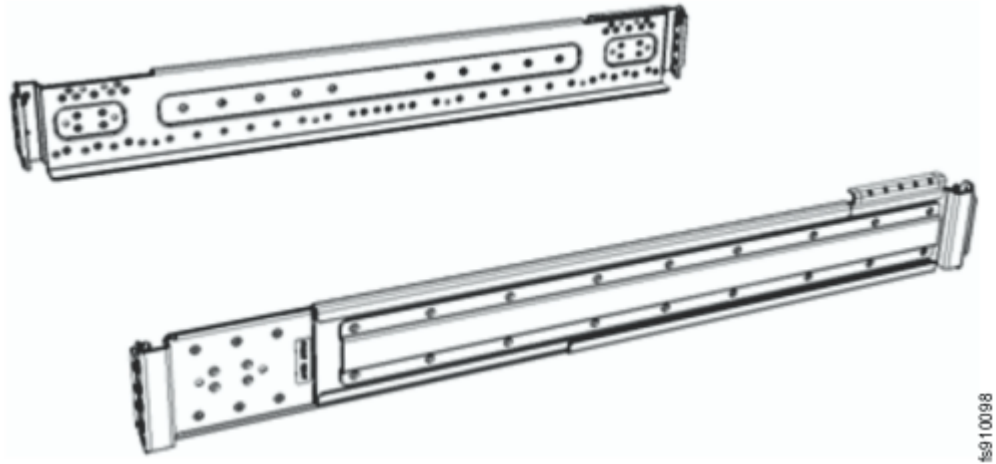

Figure 25. Control enclosure support rails
1. Locate the control enclosure rails, as shown in Figure 25 on page 65.